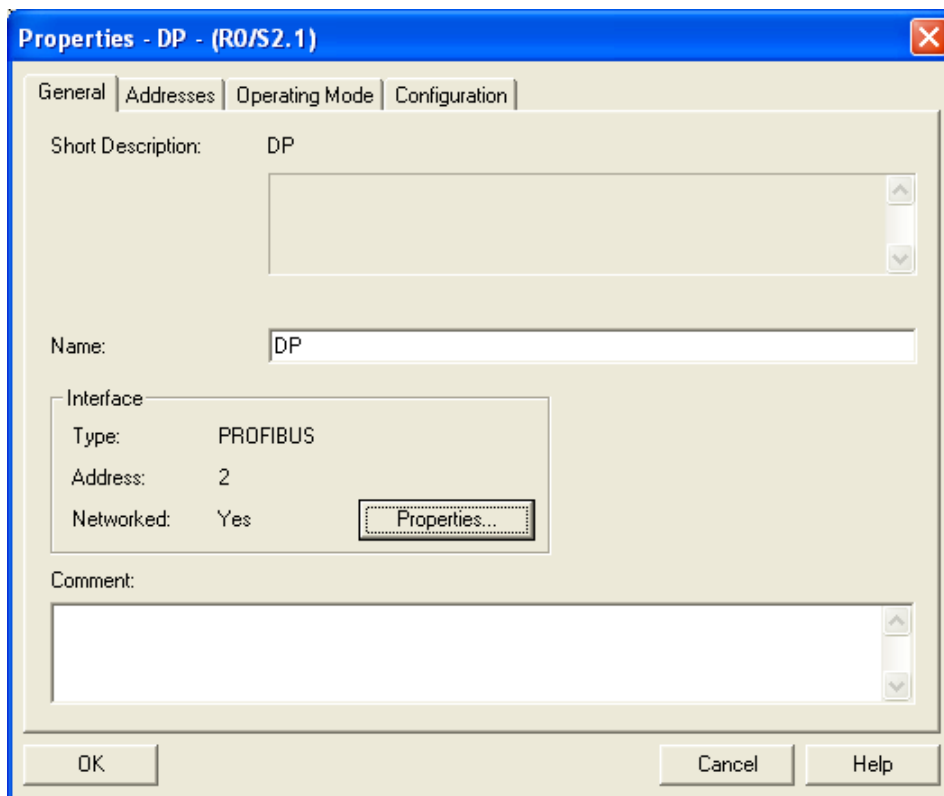

Figure 7-15
7. Confirm the information on the PROFIBUS DP bus in the dialog box and click “OK”. See Figure 7-15.